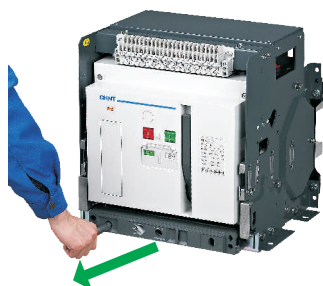

Figure 29 Pulling out the handle
- Pull out the handle and fully insert the hex head of the handle into the handle hole of the drawer seat, as shown in Figure 29.